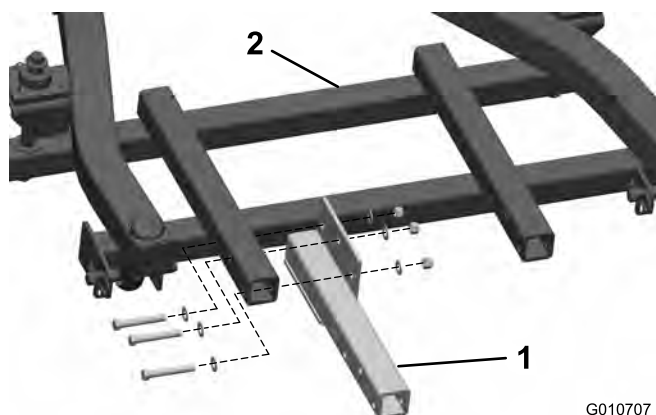

Figure 1
2. Loosely install the left arm to the attachment frame using 3 bolts (7/16 x 3 inches), 3 locknuts (7/16 inch), and 6 washers (Figure 1).